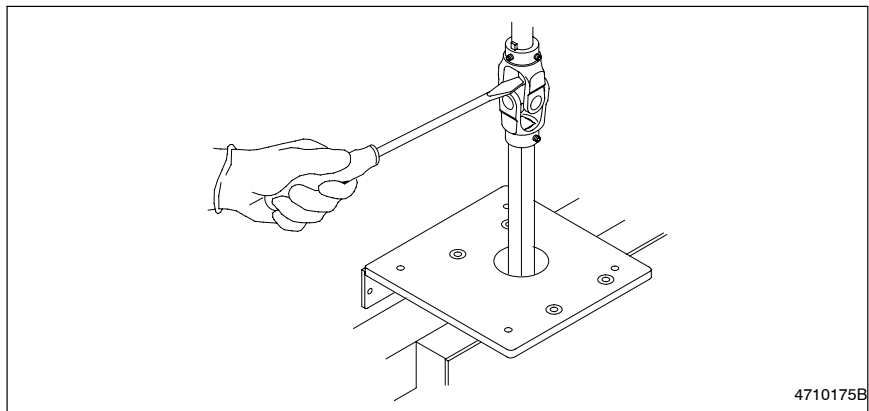

Fig. 7-39 Lifting the Speed Reducer to Access the Upper Yoke Assembly
5. See Figure 7-39. Lift the speed reducer until the upper yoke assembly is visible.